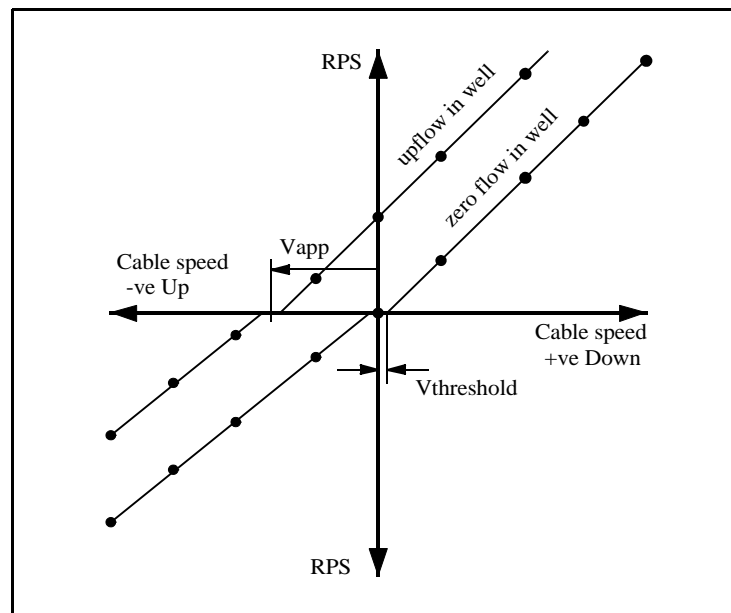

Figure 4.1 Flowmeter Fluid Velocity Response
- 1 Since the tool response (Figure 4.1) is closely linear and any zero offset will be negligible, extend the best straight line through the plotted readings until it cuts the cable speed axis. The cable speed reading here will be V_{app} .